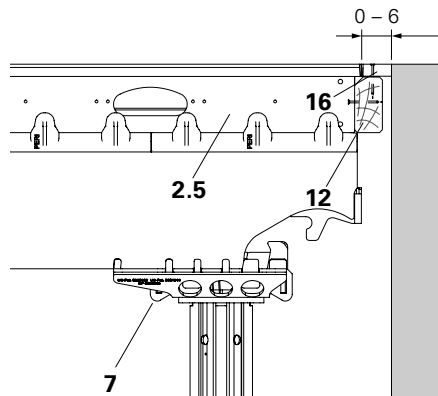

Fig. A5.22
1. Place Combihead SCK (7) or Prophead SSK (6) in a recessed position under the Main Beam SLT (2.5).
2. Nail Filler Timber SPH (12) or timber up to max. 6 cm on the panel.
3. Install formlining (16) and secure with nails. (Fig. A5.22 + A5.23)